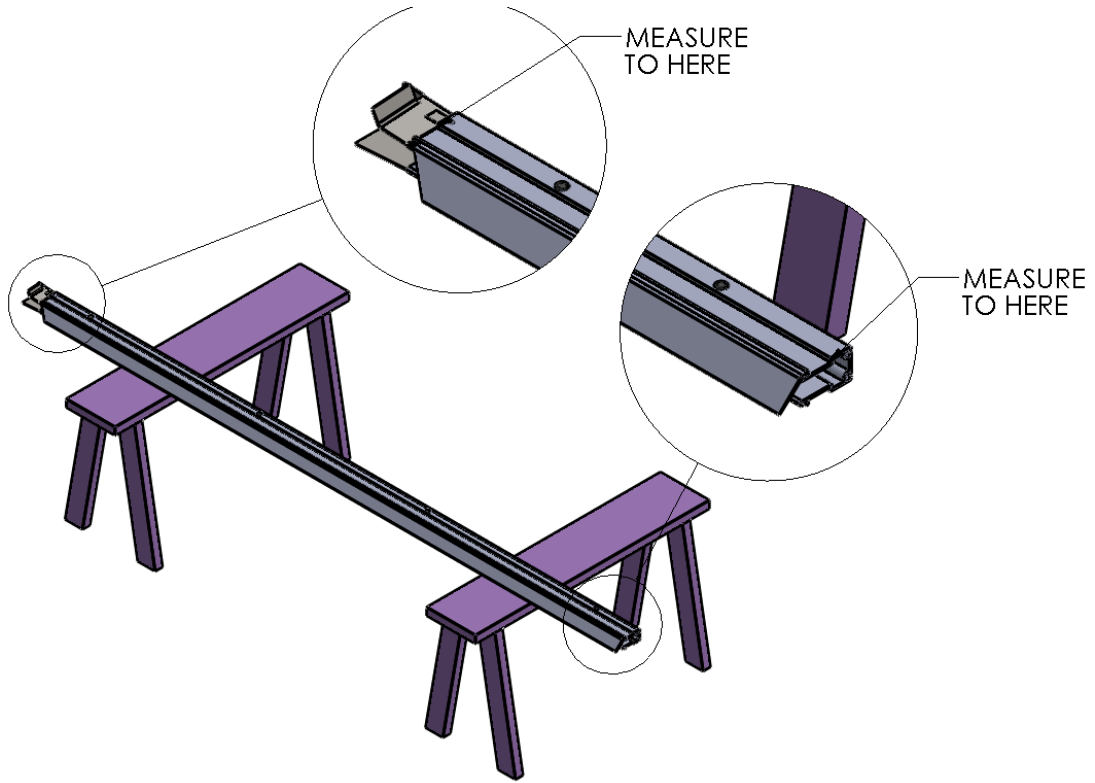

Figure 4 MEASURE TRACK HEIGHT
5. Set one of the Vertical Track Assemblies on your work surface and measure the length of the vinyl Track only. ADD 3-1/4" to this number and take note. This is the height dimension needed to mark the location of the bottom edge of the Header Mounting Brackets. With this number, add a horizontal line on each side of the opening that intersects the previously drawn vertical line marking the overall width of the roll assembly. (Figure 4 MEASURE TRACK HEIGHT) (Figure 5 MARK TRACK HEIGH)